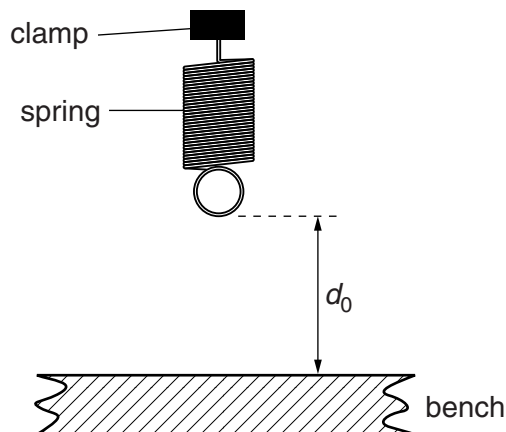

Fig. 1.1
Fig. 1.1 shows the experimental set up.
- (a) On Fig. 1.1, measure the vertical distance d_0 , in mm, between the bottom of the spring and the surface of the bench.